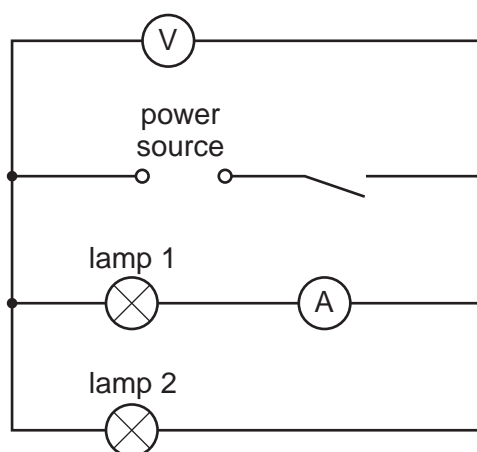

Fig. 3.1
- (vi) Sufficient connecting leads to construct the circuit shown in Fig. 3.1 with two spare leads.
1. The components are to be connected by the Supervisor as shown in Fig. 3.1.
Reconnect the circuit as shown in Fig. 3.1.